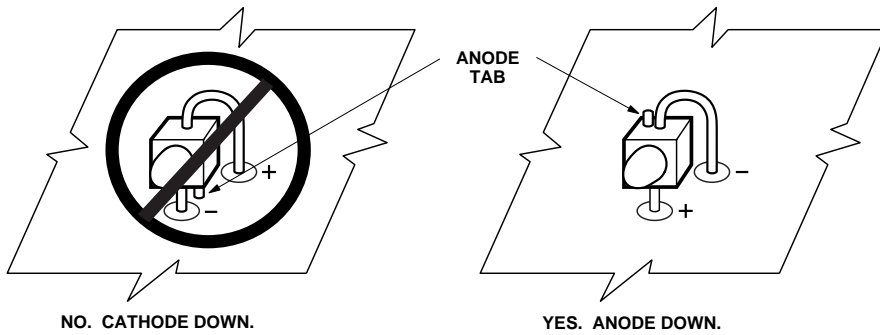

Figure 1. Proper right angle mounting to a PC board to prevent protruding anode tab from shorting to cathode connection.
* REFER TO FIGURE 1 FOR DESIGN CONERNS.